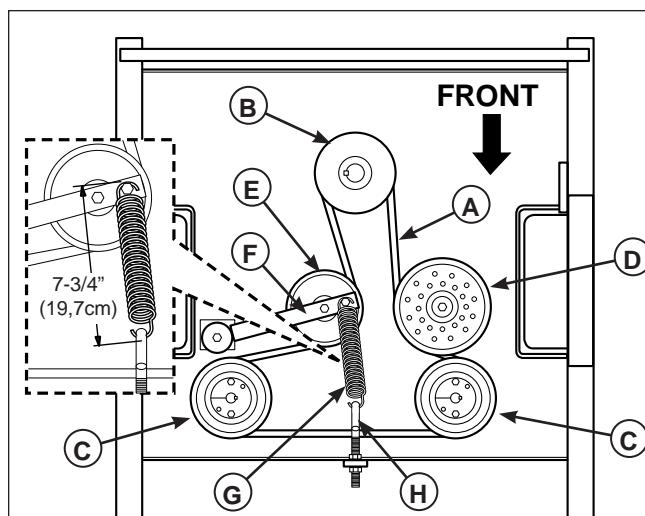

Figure 53. Hydraulic Pump Drive Belt Replacement
3. Loosen the nut towards the front of the machine on the spring anchor hook (H, Figure 53) to release the majority of the belt tension. Use caution and remove the nut to completely release the tension.
5. Reinstall the anchor hook (H) into the anchor tab and loosely fasten the nut. Adjust the spring until a measurement of 7-3/4" (19,7cm) is achieved from the outside of the spring hooks. Tighten nut.